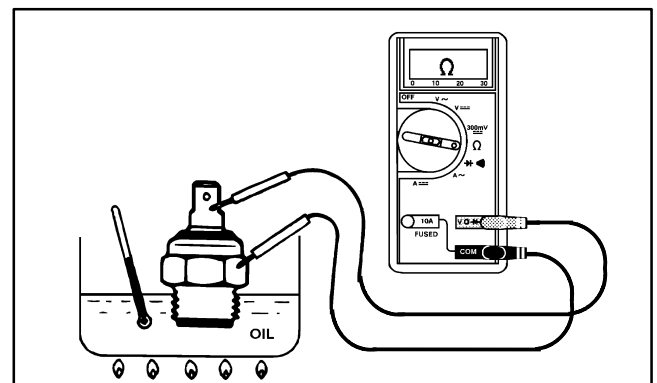

Figure 33
3. Put the end of the switch in a container of oil with a thermometer and slowly heat the oil (Fig. 33).